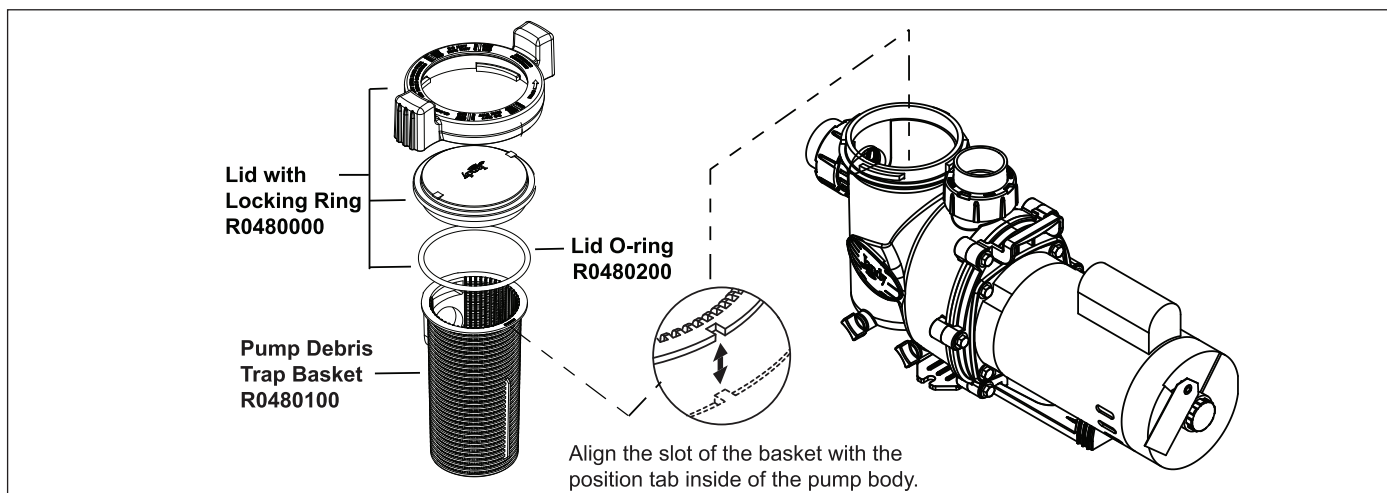

Figure 8. Lid with Locking Ring, O-ring, and Pump Debris Tray Basket
1. Refer to Figure 8 and the associated parts list to identify the parts included in each replacement kit.
- c. Place new pump basket in pump housing. Align basket slot with positioning tab inside pump body (See Figure 8.) If aligned properly, the basket will drop easily into place. Do not force it into place.